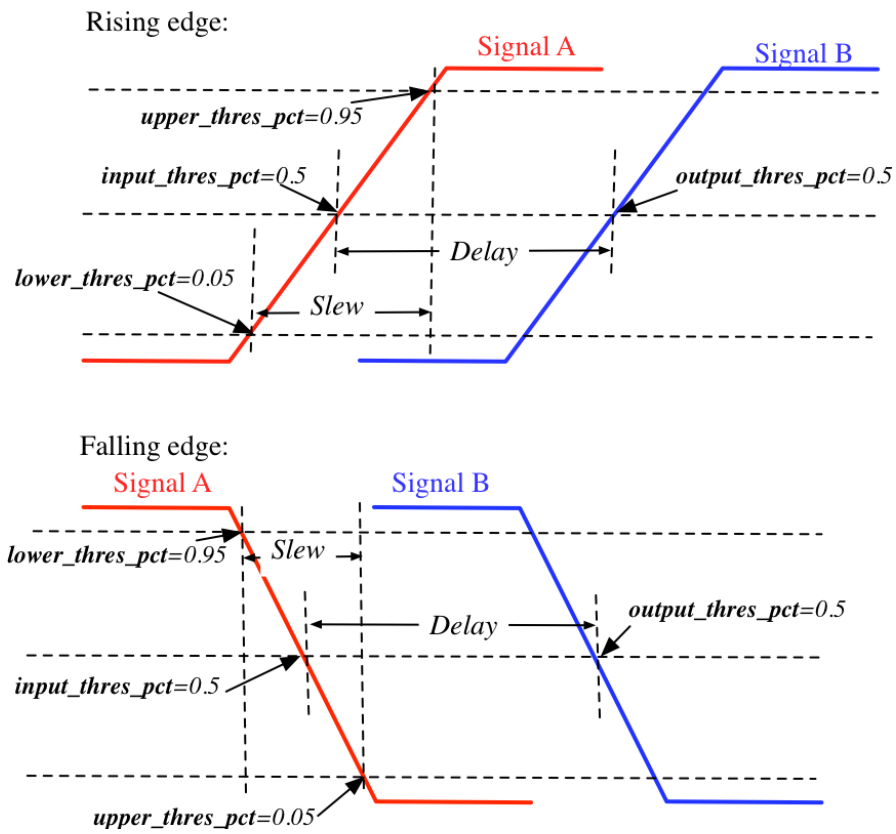

Fig. 7.13: An illustrative example on measuring the slew and delay of signals
- `upper_thres_pct="<float>"` the ending point in measuring the slew of a rising edge. It is expressed as a percentage of the maximum voltage of a signal. For example, the meaning of `upper_thres_pct=0.95` is depicted in Fig. 7.13.
- `lower_thres_pct="<float>"` the starting point in measuring the slew of a rising edge. It is expressed as a percentage of the maximum voltage of a signal. For example, the meaning of `lower_thres_pct=0.05` is depicted in Fig. 7.13.
Fig. 7.13 depicts the definition of the slew and delays of signals and the parameters that can be supported by FPGA-SPICE.